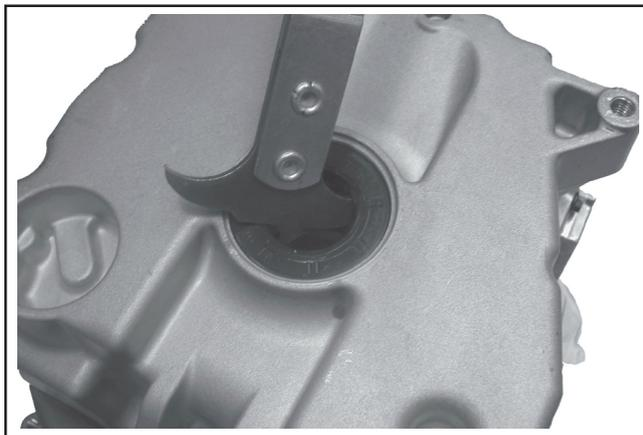

Figure 8-54. Removing Seal with a Seal Puller.
1. Use a seal puller to remove the PTO and flywheel side oil seals. See Figure 8-54.